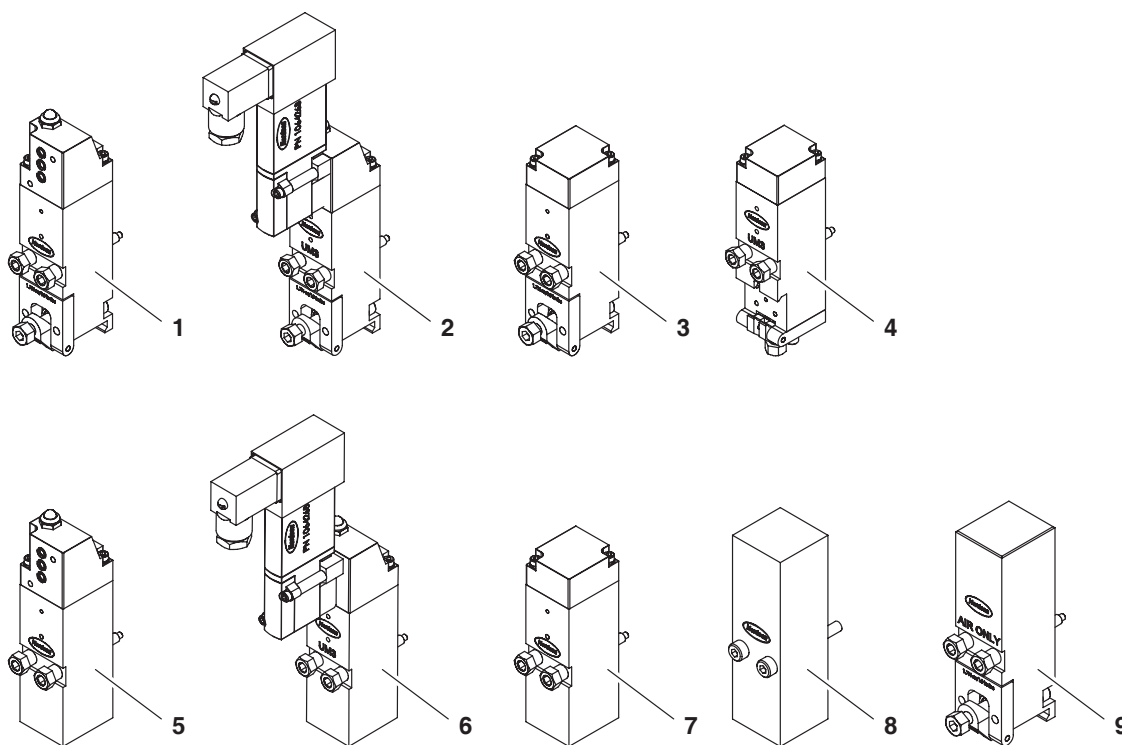
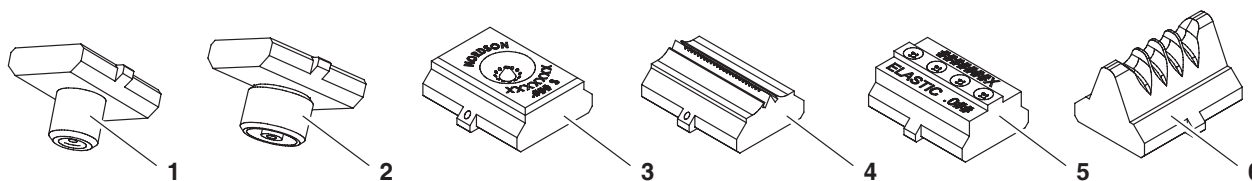

Figure 1 UM3 modules
Figure 2 Adapters and nozzles associated with UM3 spray modules
This manual provides specifications, troubleshooting, repair, and parts information for the Universal three-way (UM3) dispensing module, which is generally used on metering applicators. The UM3 spray module, either directly or through the use of an adapter, can dispense adhesive in a variety of spray applications, including Controlled Fiberization (CF), meltblown, Summit, and SureWrap applications. The UM3 coating module can be used with a coating nozzle assembly to apply a sheet of adhesive in coating applications, or with a bead nozzle plate for applications that require custom spacing between adhesive beads. Table 2 shows the available UM3 modules. Figure 1 shows the UM3 modules and Figure 2 shows the adapters and nozzles for use with UM3 spray modules.